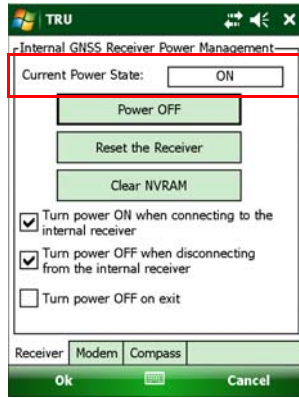

Figure 4-1. TRU – Current Power State is ON
2. Make sure **ON** is selected as the **Current Power State** (Figure 4-1).